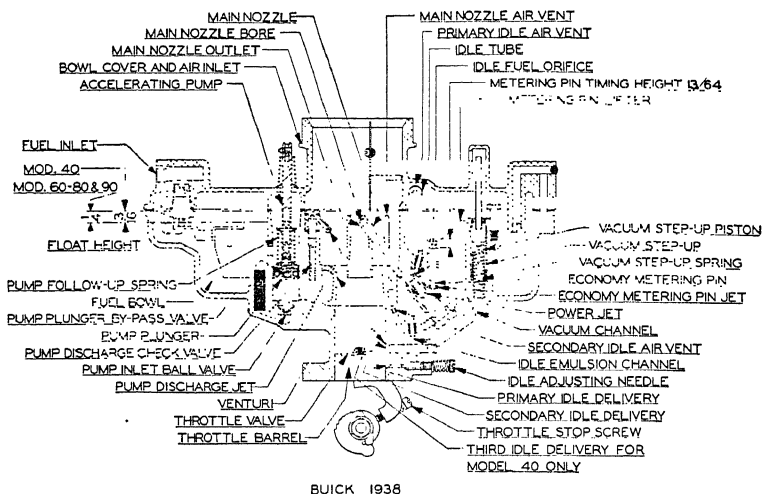

Fig. 1. Buick 1938 Marvel Carburetor
**Operation.** The carburetor is provided with two floats, two complete idle systems, two main nozzle systems, two metering pin and jet systems, two accelerating pump discharge jets, two mixing chambers and two throttle valves. In the schematic view, Fig. 1, only one of each duplicated system is shown, and the description to follow will deal with these duplicate units as a single system.